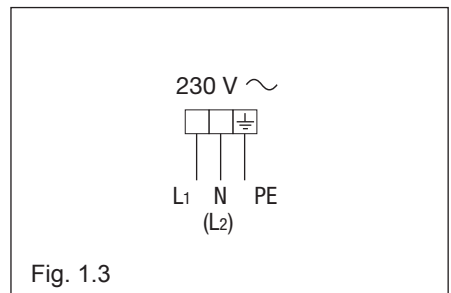

Fig. 1.3
- Connect the phase and earth cables to the terminal block “**B**” according to the diagram in figure 1.3.